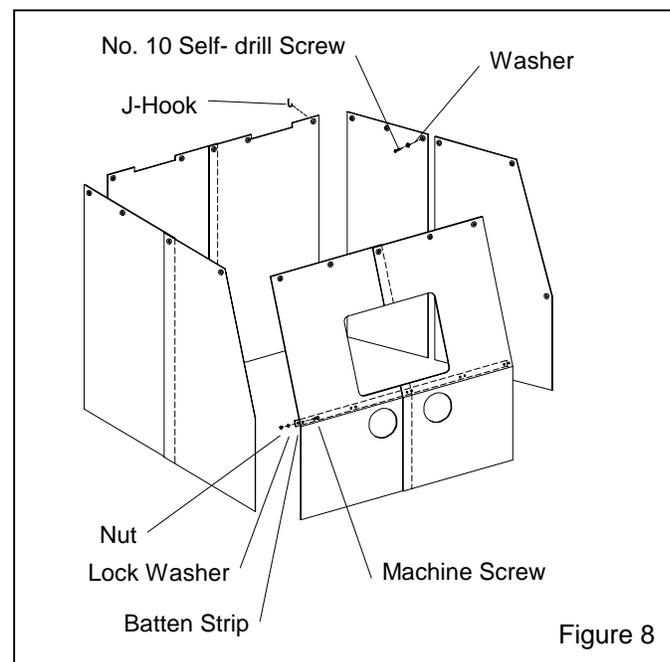

Figure 8
### **3.2 Curtain Installation, Figure 8**
**3.2.1** Match the curtains to the corresponding wall and door as shown in Figure 8. Hook the curtains to the J-Hooks welded along the top of the front, back, and side walls. Cut openings for the hoses on the lower left rear wall.
**3.2.3** For front walls, place the batten strip over the curtain, and clamp it in position on the front slope above the break as shown in Figure 8. Match drill .187" (3/16") diameter holes through the rubber and cabinet front at each batten hole. To install the batten insert #10-24 x 1" round head machine screws through the cabinet front, curtain and batten. Install lock washers and nuts from inside the cabinet and tighten securely.